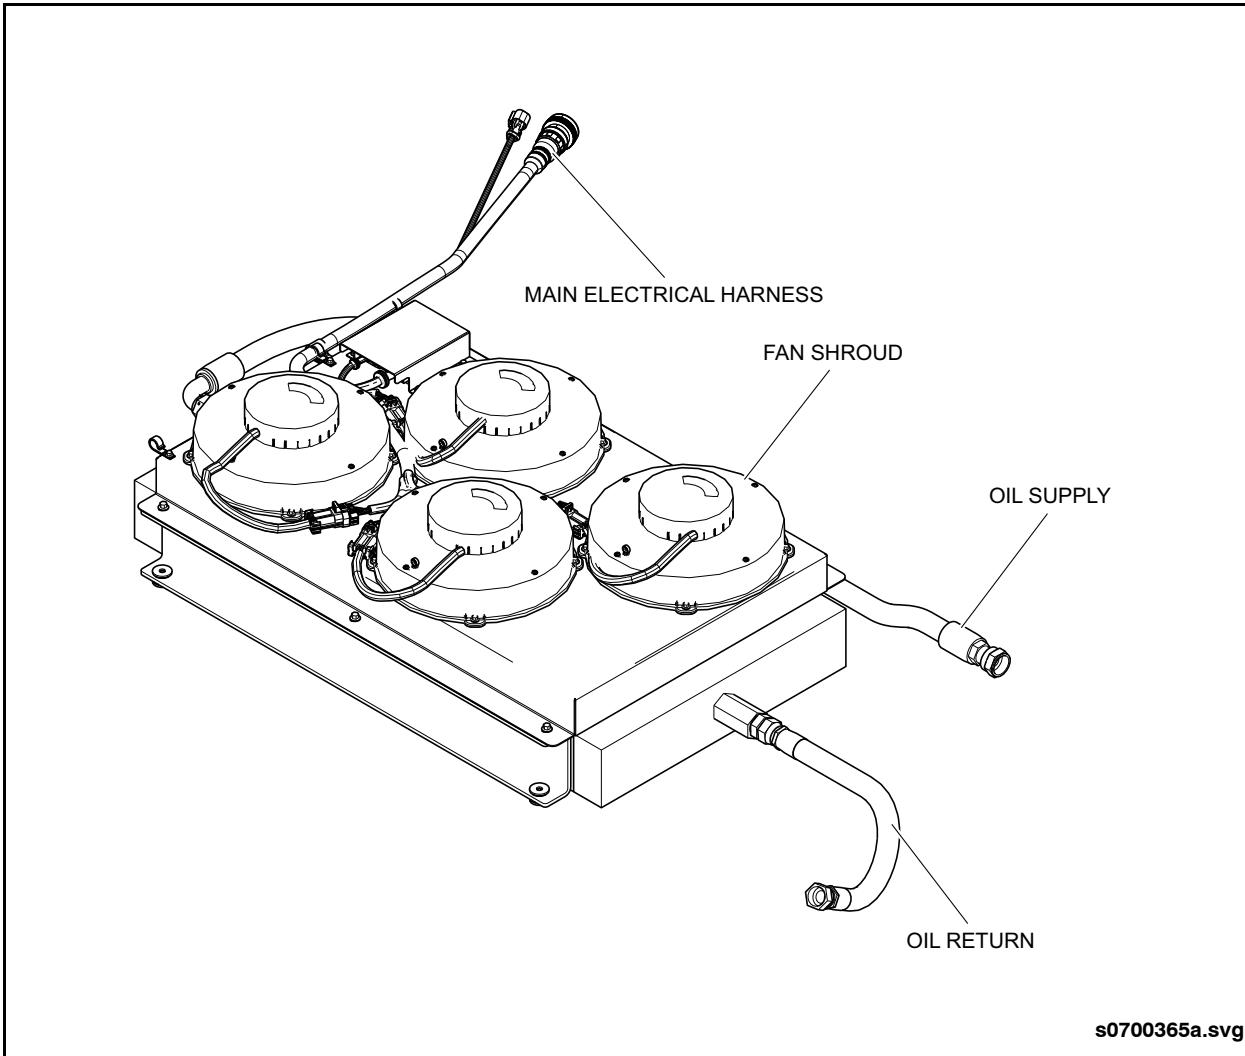

Fig. PM-30: Hybrid Oil Cooler Inspection
2. Clean any debris from the fan shrouds and ensure airflow is unrestricted. See "Fig. PM-30: Hybrid Oil Cooler Inspection" on page 63.